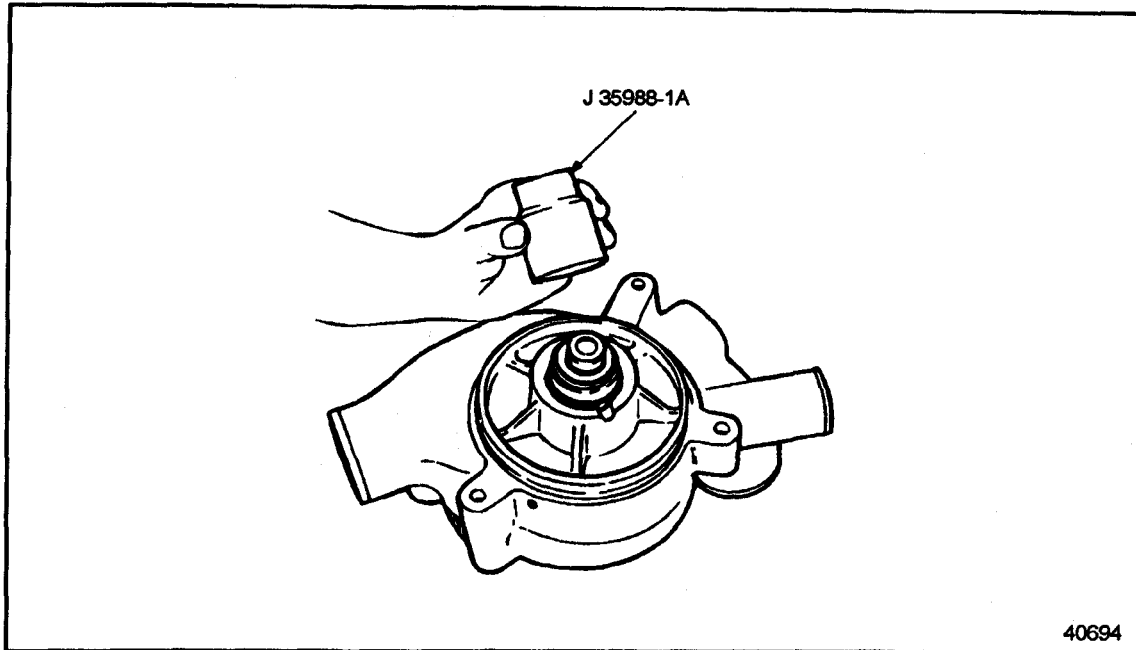

Figure 4-23 Drive Shaft Installation (GCM)
8. Place the large end of tool J 35988-1A, part of tool set J 35988-B, over the drive shaft so that the lip of the tool rests squarely on the outer bearing race. See Figure 4-23.